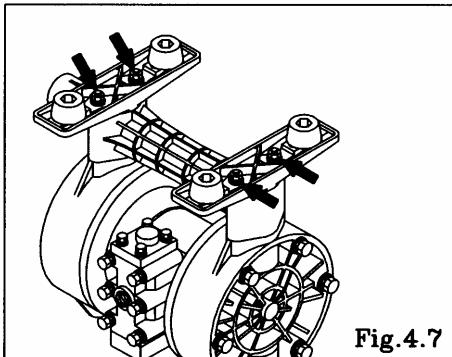

Fig.4.7
- Turn over the main body assembly. [Fig.4.7]
- Pull out the tie rod , and remove the base and in manifold. [Fig.4.7]